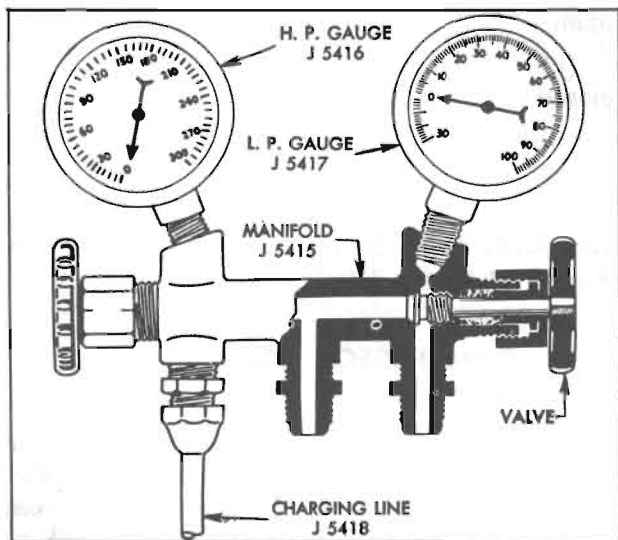

Figure 11-25—Pressure Gauge Set
2. Using adapters J-5420, connect charging lines of Pressure Gauge Set (fig. 11-25) to gauge fittings with both valves of Manifold J 5415 closed.